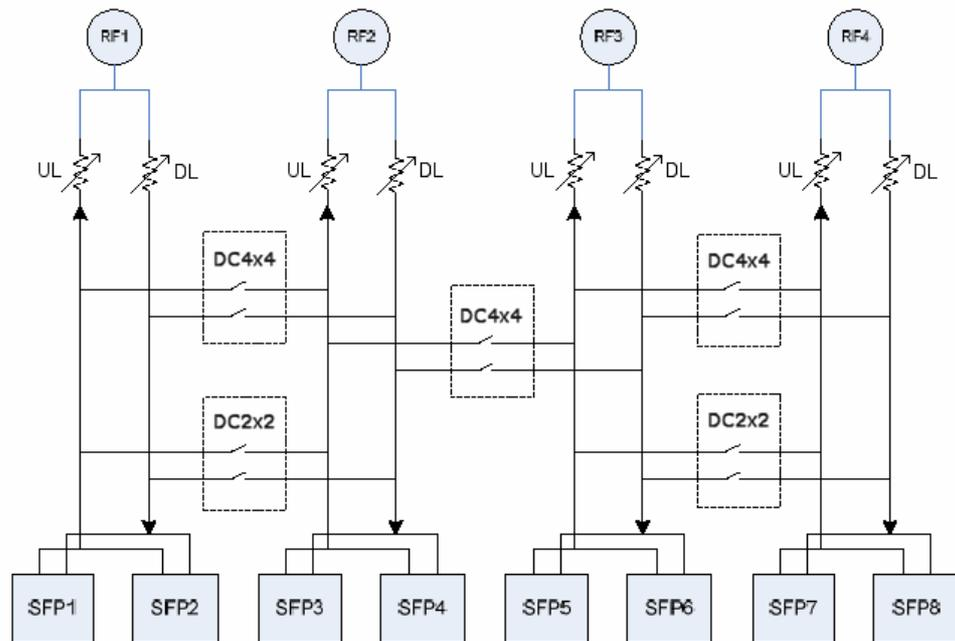

Figure 4-4: Schematic of the HU distribution and attenuation circuit
Figure 4-4 shows a schematic of the 2700 HU with the downlink input attenuators (DL) and uplink output attenuators (UL). Also shown is the distribution circuitry.
- Without any of the distribution switches enabled, RF1 port is connected to SFP ports 1 & 2, RF2 to SFP ports 3 & 4, RF3 to SFP ports 5 & 6 and RF4 to SFP ports 7 & 8, as shown in Figure 4-4